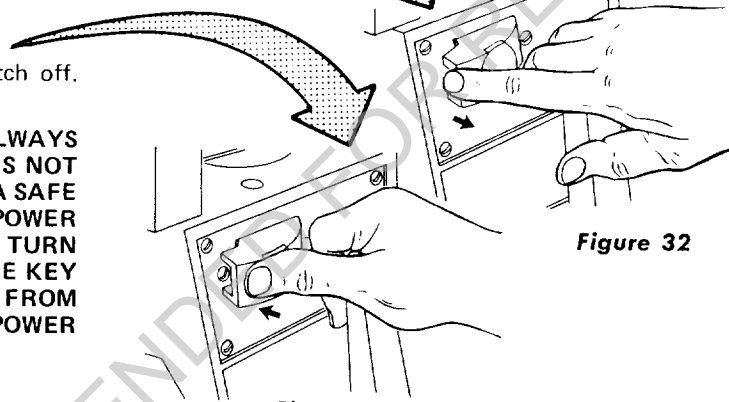

Figure 33
(3) Push lever in with thumb to turn switch off. (See figure 33)